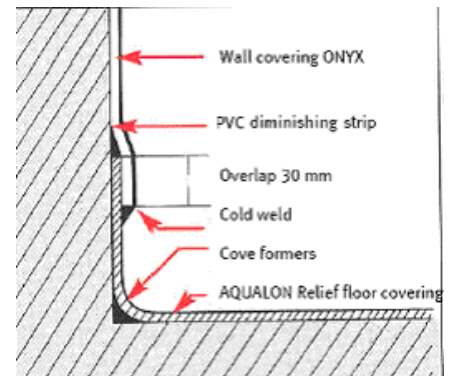

Figure 2.2
2.2 If the wall covering is to be installed on a wall where the vinyl floor covering extends some distance on the wall, the section of wall immediately above the floor covering will need to have a PVC diminishing strip installed (figure 2.2).
3.17 Where the floor covering extends up the wall, the bottom of the wall covering needs to overlap it by about 3cm. This portion of wall covering should be adhered as before. It is important to apply sufficient adhesive, and to press and smooth the wall covering thoroughly. Seal the bottom edge of the wall covering with a cold weld paste (see figure 2.2)
3.21 In parts of the room where a waterproof wall covering is essential (in a shower corner or behind a bath), exposed edges should be sealed using the same product as used round the pipes. The bottom edge of the wall covering overlap should be sealed with a suitable cold weld paste (see figure 2.2).
covering should be adhered as before. It is important to apply sufficient adhesive, and to press and smooth the wall covering thoroughly. Seal the bottom edge of the wall covering with a cold weld paste (see figure 2.2)